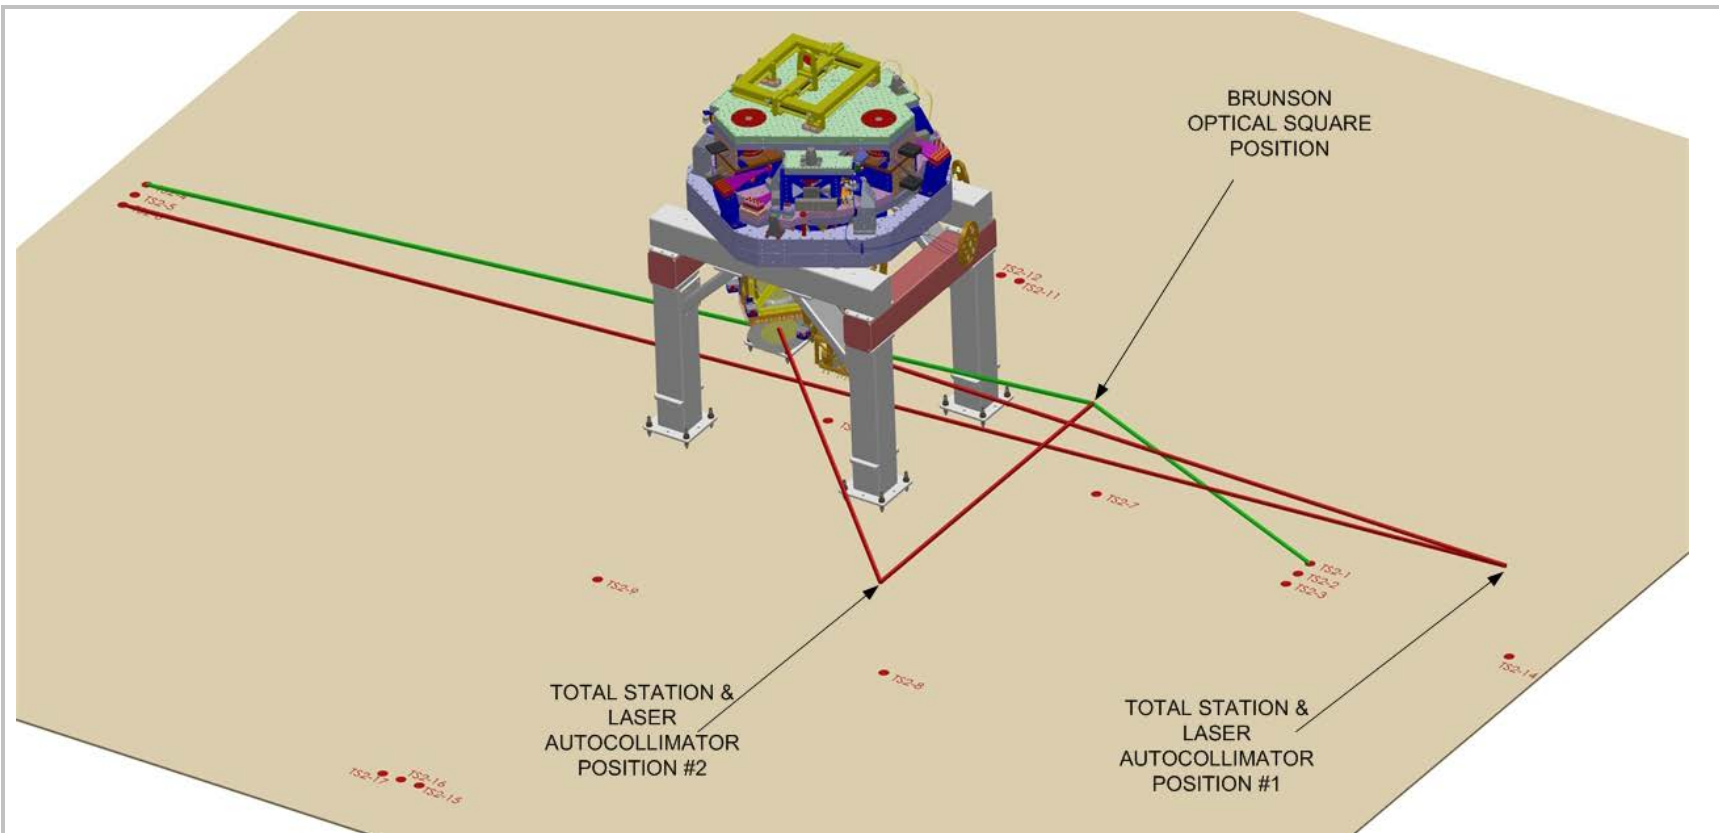
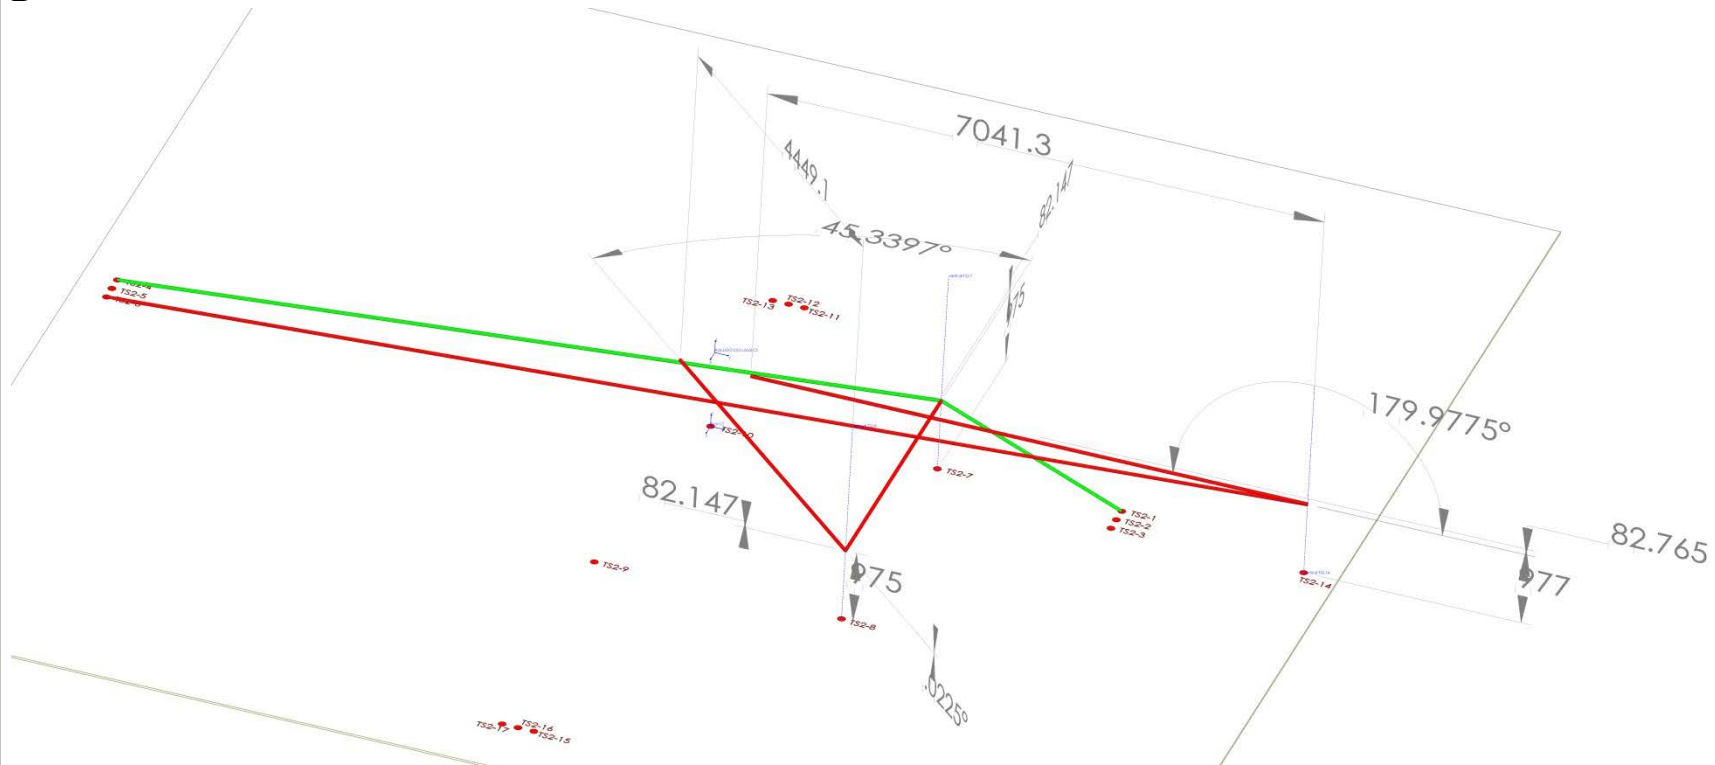

Figure 3: IAS Instrument Positions and Lines Of Sight (LOS) for the WBSC8 Cartridge Assembly Alignment
Figure 4: IAS Instrument Positions and LOS
The positions and Lines Of Sight (LOS) for the WBSC8 cartridge assembly alignment are depicted in Figure 3. The dimensional information associated with this alignment is depicted in Figure 4.
- Set the total station on TS2-14 and sight TS2-3 and TS2-6. See Figure 4